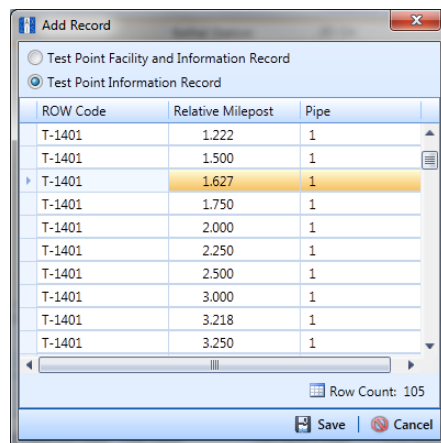

Figure 6-19. Add Record
- 5 Click  **Add** to open the *Add Record* dialog box. (Figure 6-19, page 182).
- 7 Select a facility record in the *Add Record* dialog box that you want to create a history record. For example, the facility record with *Relative Milepost 1.627* is selected in the following figure (Figure 6-19, page 182).